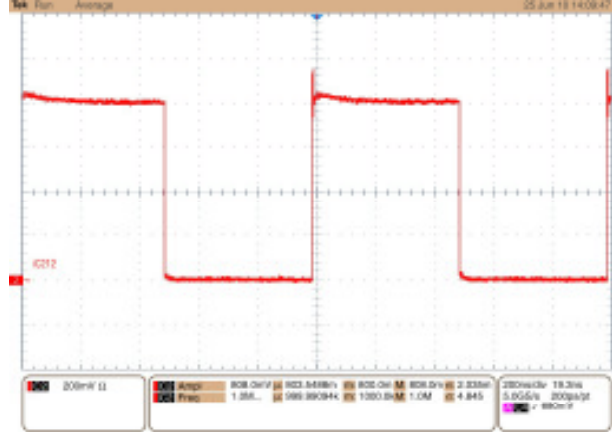

Figure 7: Oscilloscope reading
3. Read amplitude:  $U = 0.803 \text{ V}$  (Fig. 7)